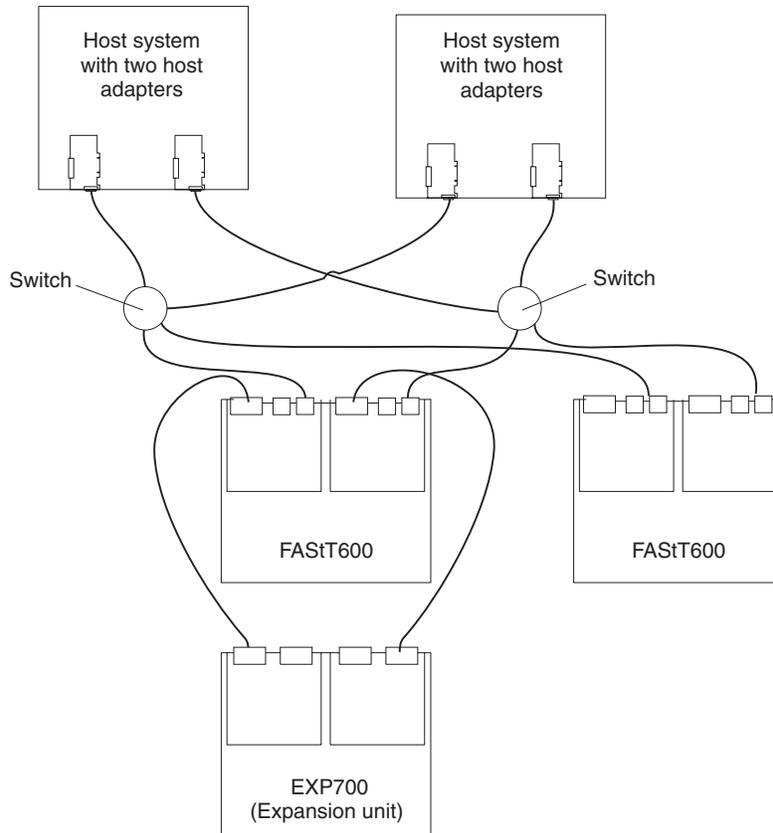

Figure 23. Example of a dual-SAN fabric zone configuration (Model 60U/60X)
- Dual SAN fabric zone configuration, with an additional FAStT600 storage server and an EXP700 attached (Figure 23 on page 28)